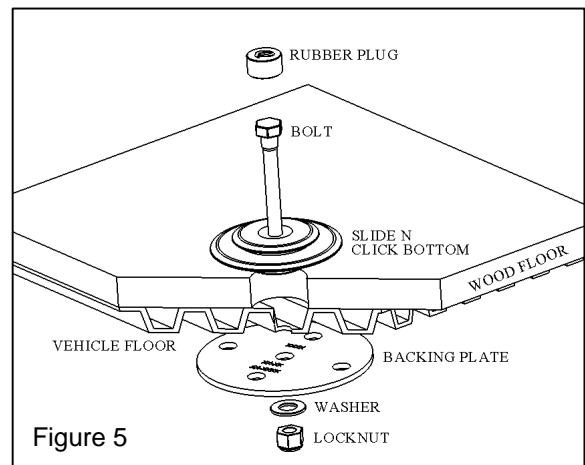

Figure 5
8. Securely fasten bolt and lock nut as shown in Figure 5, ensuring at least 2 – 3 threads are sticking out. *Use of a thin wall socket screw is recommended. **Recommended torque = 35 FT/LB (47 N.m.).***
7. Securely fasten bolt and lock nut as shown in Figure 5, ensuring at least 2 – 3 threads are sticking out. *Use of a thin wall socket screw is recommended. **Recommended torque = 35 FT/LB (47 N.m.).***